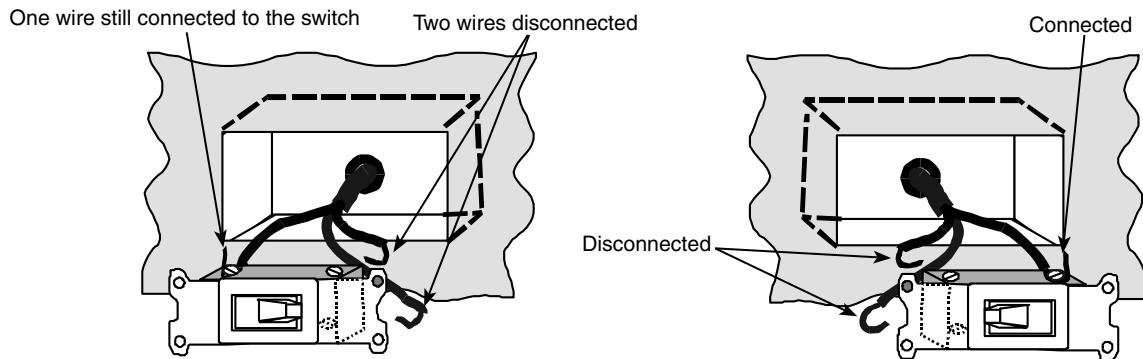

Figure 8-14
4. Turn the power back on and check each wire on both switches with your circuit tester to find out which one of the six has power; see Figure 8-14.